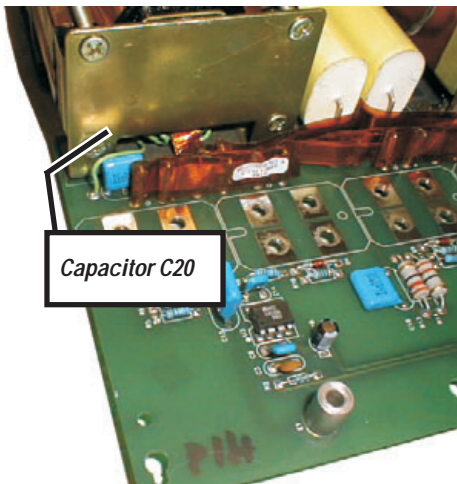

Figure 2.13. Capacitor C20 may also need replacement. See the text.
4. Check the value and rating labeled on capacitor C20 (see Figure 2.13). If it is not a 0.1 μF 250V capacitor (early modules will have the original 0.047 μF 400V component instead), replace it with QSC part # **CA-410009-00**.